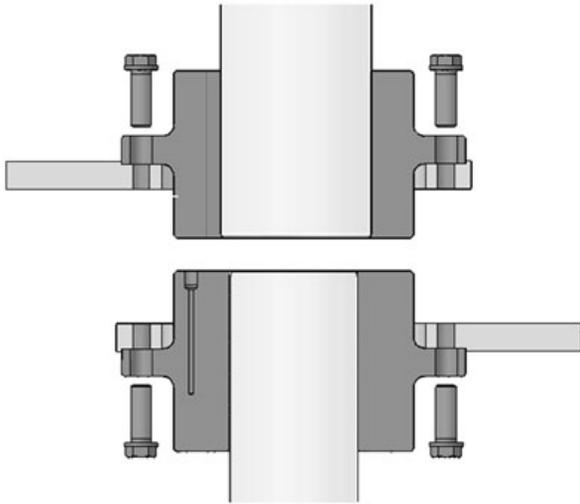

Fig 5.3
- Insert flanges (2) and mount them by tightening bolts and washers (5, 6) (See fig. 5.3)